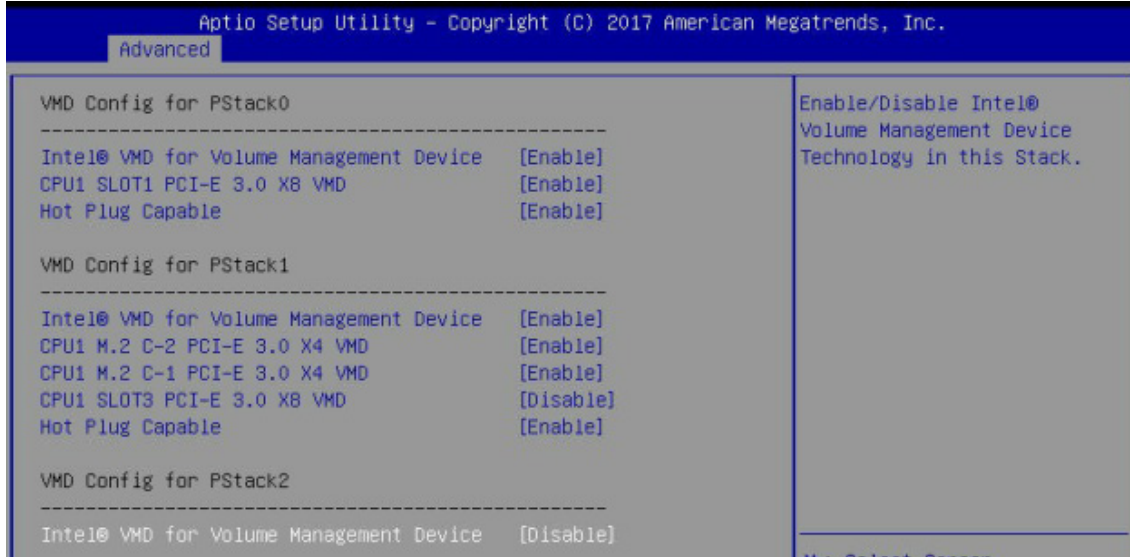
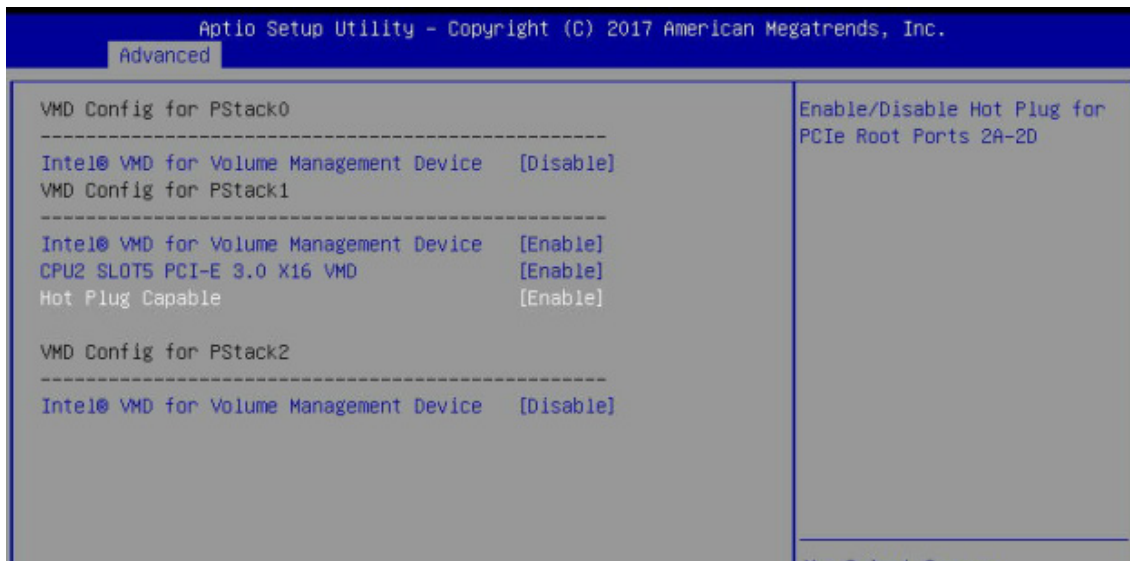

Figure C-5. BIOS, Enabling CPU1 Example
Figure C-6. BIOS, Enabling CPU2 Example
- Repeat steps 5-6 for each PStack# on each CPU to be enabled or disabled. In this example, we enabled CPU1 Slot1 (Figure C-5) and CPU2 Slot5 (Figure C-6) (our 4x U.2 form factor SSDs), as well as CPU1 M.2 C-1 and CPU1 M2. C-2 (our 2x M.2 form factor SSDs).